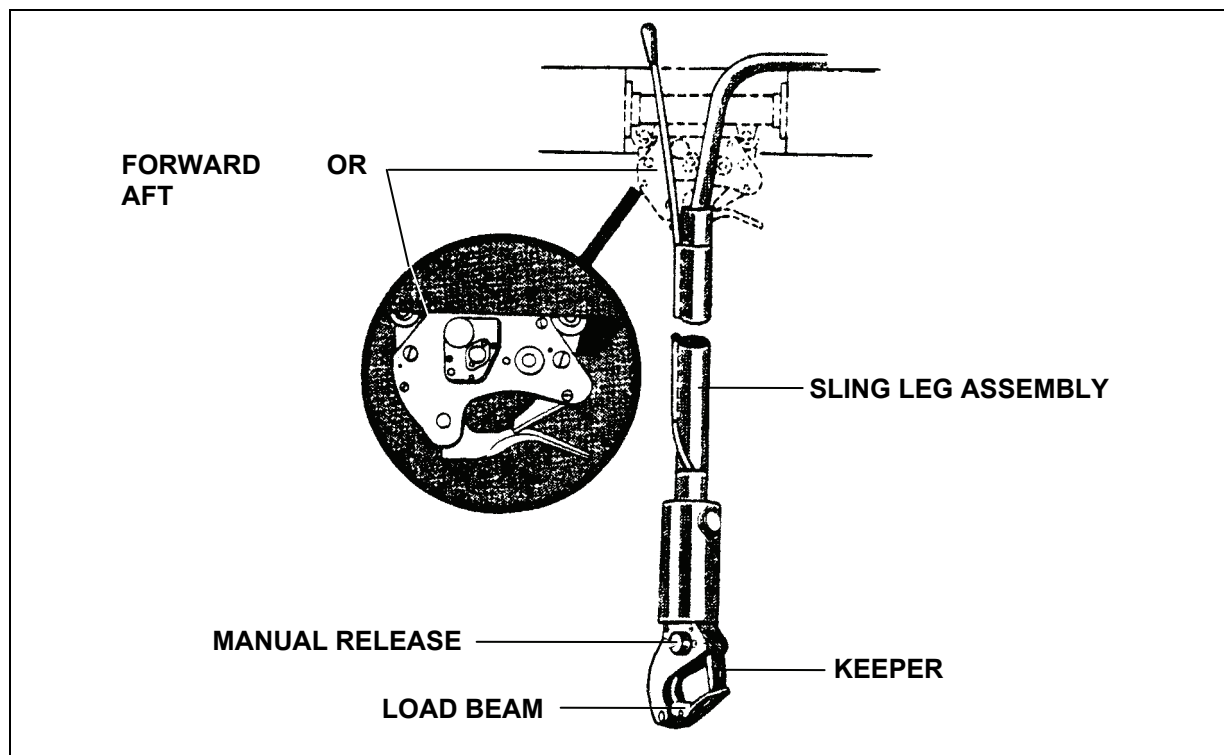

Figure 2-20. H-53E Forward and Aft Cargo Hooks
- A dual-point suspension system, similar to the CH-47D, uses a forward and aft cargo hook (Figure 2-20). These two cargo hooks, located 10 feet apart, must be used for dual-point loads. The aircraft maximum lift capacity, when carrying a dual-point load, is 32,000 pounds with a maximum of 60 percent of the sling load on either the forward or aft hook. A pendant specifically designed for the H-53E is used with the dual-point system to provide additional clearance between the helicopter and the hookup team. The aircrew can open the forward or aft cargo hook electrically or manually. A manual release lever is located on the left side of the cargo hook. In an emergency, the ground crew can open the hook by moving the manual release lever up.